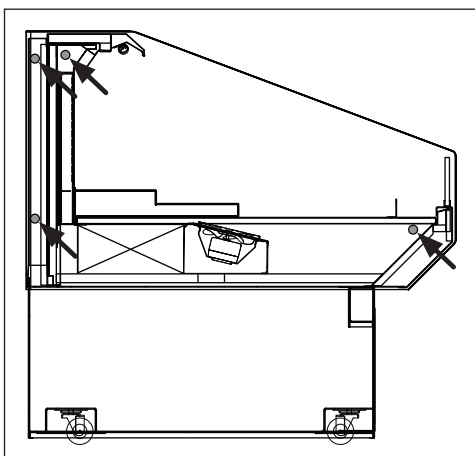

Fig. 6 Bolt locations (HSC-SC)
4. Push the cases tightly together, then lightly bolt them together through the holes provided (Fig. 6 & 7). Tighten all the joining bolts until all margins are equal. Be careful not to over tighten.